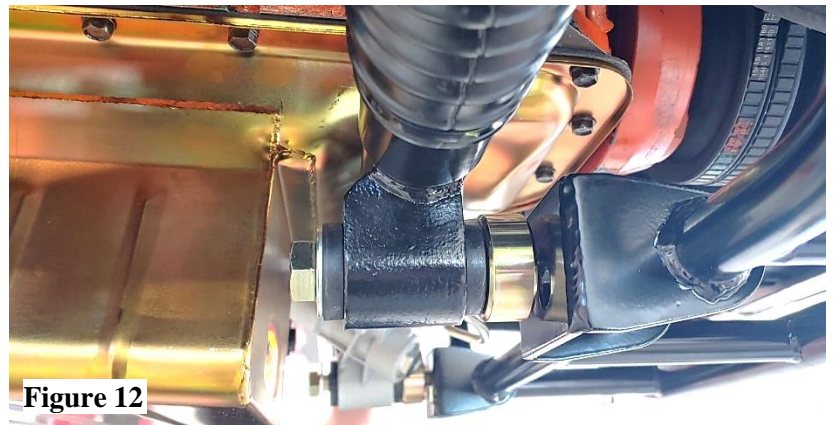

Figure 12
22. Install the power rack to the cross-member with one 3/4" wide rack spacer between the rack and k-member. (**Figure 12**) Attach using 5/8" x 4.5" hardware with one 5/8" I.D. x 1.75" washer on the rack bushing side and one 5/8" I.D. x 1.25" washer on the k-member side of the mount. Torque to 90 lb. ft.